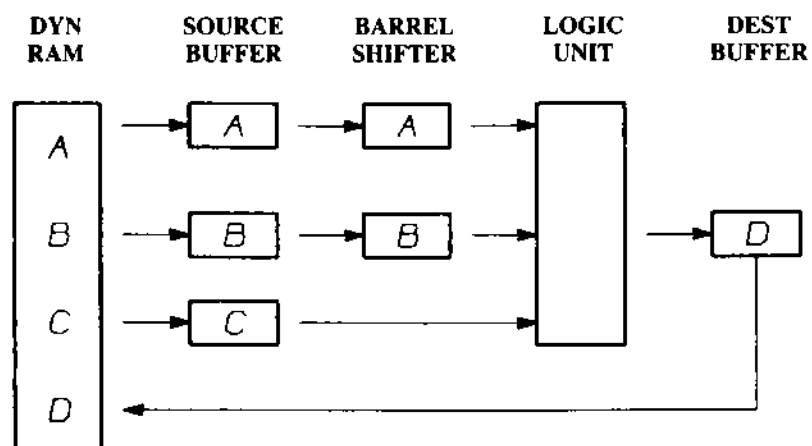

FIGURE 6.3. Blitter Block Diagram
The block diagram (Figure 6.3) for this device shows the DMA control and address bus logic. The output of each controller indicates the number of DMA channels driving the Register Address Encoder and RAM Address Generator.
The procedure for moving and combining bit-mapped images in memory received the name Bit Blit from a computer instruction that did block transfers of data on bit boundaries. These routines became known as Bit Blitters or Blitters. The Blitter DMA Controller is pre-loaded with the address and size of three source images (A, B, and C) and one destination (D) in the dynamic RAM (refer to Figure 6.3). These images can be as small as a single character or as large as twice the screen size. They can be full images or smaller windows of a larger image. After one work of each source image is sequentially loaded into the source buffer (A, B, C) they are shifted and then combined together in the logical unit to perform image movement overlay, masking, and replacements. The result is captured in the destination buffer (D) and sent back to the RAM memory destination address.